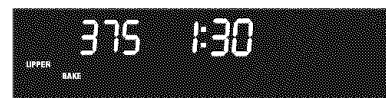

Figure 2
3. Press    "375°" will appear, "UPPER" and "BAKE" continue flashing in the display (Figure 2).